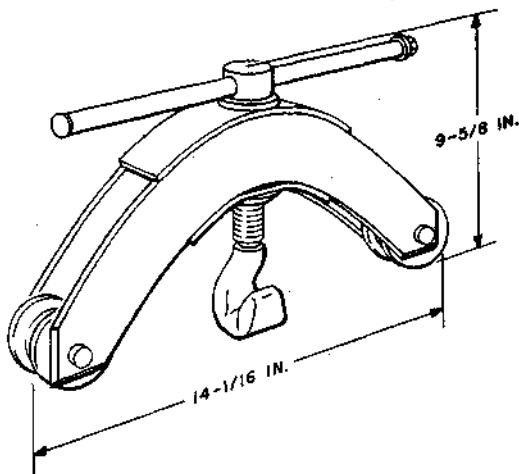

Fig. 3—D Slack Puller
3.03 The D slack puller (Fig. 3) is similar in design to the E slack puller except that the D puller does not have ball bearing action, and therefore, the turning effort required is essentially doubled. A second difference is that the ends of the frame are beveled but not rounded.